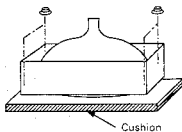

Fig. 4-3.
6. To protect the front surface of the CRT from damage, prepare a soft sheet, and lay the set on that sheet. Then, remove the four CRT lock nuts, using the T driver (JIG No. 859C358020). (Fig. 4-3)